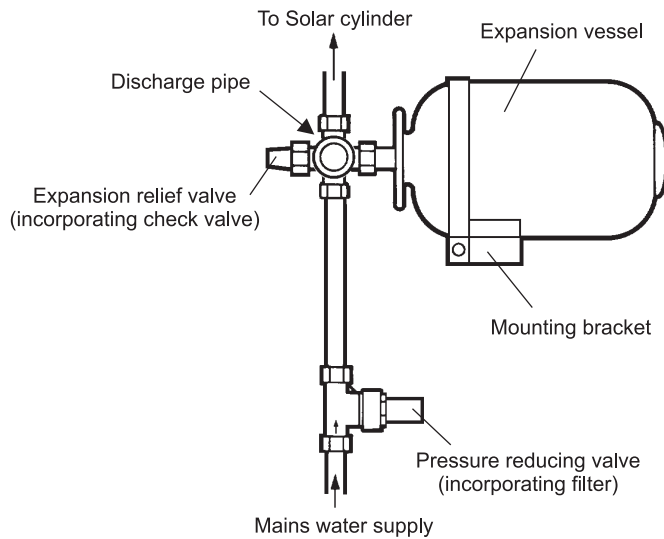

Fig. 14
4.7 FIT THE UNVENTED KIT - Fig. 14
4. Connect the expansion relief valve to the expansion vessel as shown in Fig. 14.